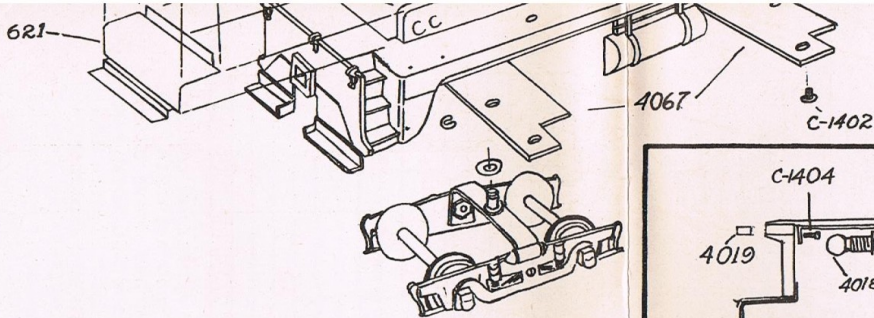
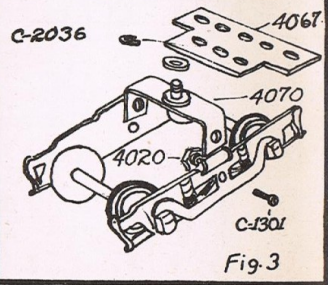
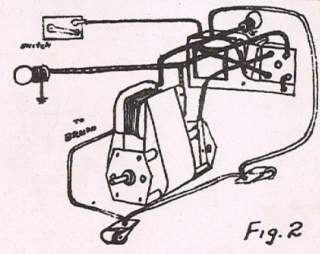
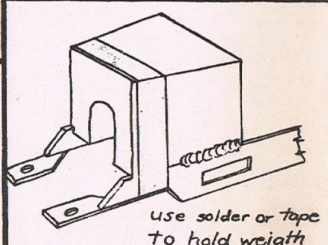

Fig. 9
Fig. 3
Fig. 2
Fig. 4
- 9-The trucks are now assembled as shown in Fig.3. This drawing should be self explanatory.
- 10-To mount trucks to body, first place one #8 washer, #C-2037, over the king pin to act as a spacer. Then put pin through floor plate, #4067, and lock in place with "C" washer, #C-2036, as shown in Fig.3. The floor plates are then fastened to the body with the four #4-40x3/16" binder head screws, #C-1402, as shown in Fig.9.
Follow the directions as shown in the exploded drawing with regards to the assembly of the truck side frames to the truck bolster #4070. The geared units should be assembled as shown in Fig.6. Before tightening side frames, place geared unit wheels in side frame bearing holes. Then tighten the screws, pulling side frames up to the bolster. Mount flexible shaft, #4071, to motor using cotter pin #C-2002. Fasten motor mounting plates, #4045, to motor, using the four #6-32x3/16" R.H. machine screws. Assemble motor mount support bars, #4044, to floor plates, #4067, leaving one end loose. Put rubber grommets in holes in bars, then place motor in place and fasten loose end of frame to the floor plate. Trucks can now be mounted as shown in fig.3. As truck is placed in position, the flexible shaft must be slipped into place in the square hole in the geared unit. After unit is assembled and wired, (A.C. wiring shown in Fig.2) it should be tested before putting on the body. The lead weight should be placed in position and fastened as shown in Fig.4. Unit should be kept lubricated for long life and smooth operation. Refer to Fig.6-7-8 for the above assembly. Assembly of FLUID DRIVE is shown in Fig.6.